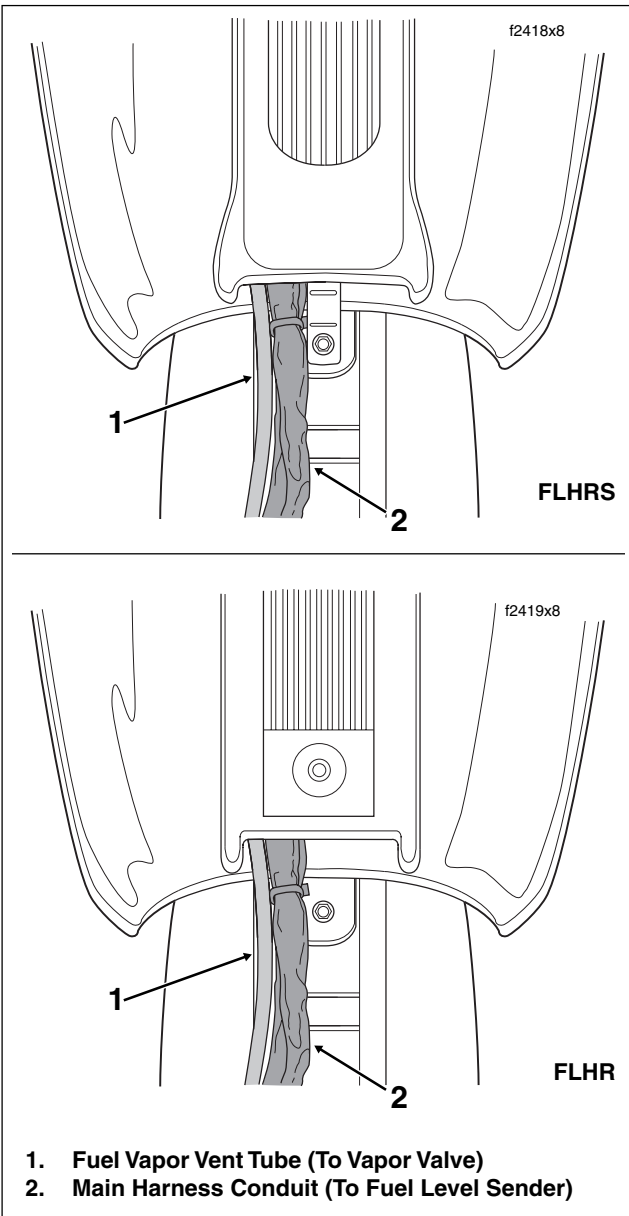

Figure 8-127. Console Cable/Hose Routing (FLHR/S)
7. Exercising caution to avoid pinching harness and vent tube, align hole in instrument console with console mounting bolt and place into position on fuel tank. See Figure 8-127.